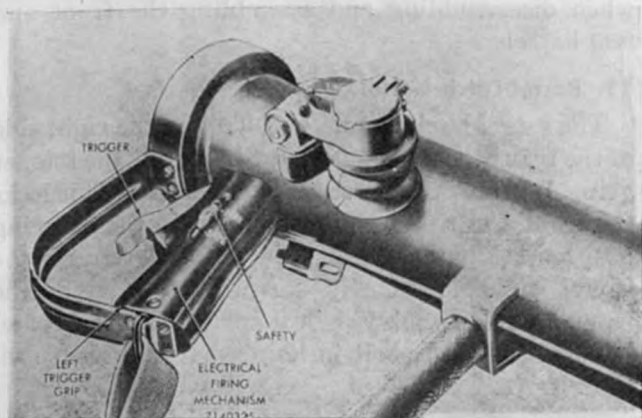
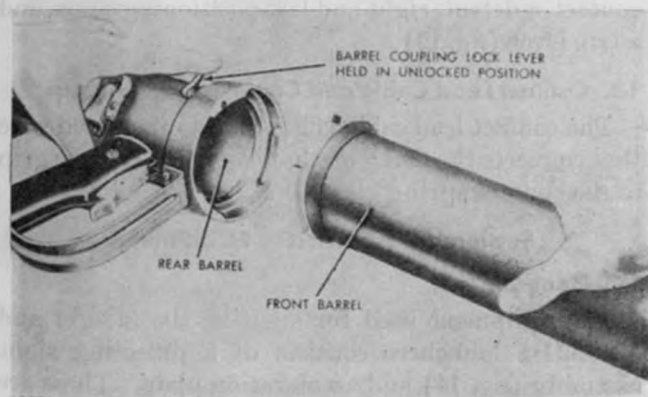

Figure 7. *Electrical firing mechanism.*
Figure 8. *Method of assembling barrels for firing.*
When the trigger is squeezed a magnetic armature is placed in motion and an electrical firing mechanism (fig. 7) in the trigger grip is activated. This generates the electrical current used to ignite the rocket.
The safety switch (fig. 7), on the left side of the trigger grip, has two positions. In the lower, or SAFE, position a block on the safety mechanism prevents the trigger from moving. In the upper, or FIRE, position the block of the safety mechanism is held clear of a lug on the trigger, and the trigger is free to move.
The barrel coupling lock lever (fig. 8) is on the right side of the rear barrel assembly just behind the
- (1) The front and rear barrel groups are joined by the barrel coupling screw on the rear end of the front barrel and the barrel coupling nut on the forward end of the rear barrel (fig. 8). The barrel coupling screw and nut are designed so that a twist of less than one-quarter turn will engage or disengage them. The front barrel can be assembled to the rear barrel in any of three positions. If the front barrels are interchanged between weapons, the weapons must be boresighted before they are used. The barrel coupling screw and nut and both barrels are made of aluminum. On the M20A1B1 launcher these parts are cast as part of the barrels.
- (2) The sight mounting bracket on the M20A1B1 launcher is a support for the sight and elevation plate. It is cast as a part of the rear barrel.
- (3) The contact lead cable connects the contact latch group to the firing mechanism. The cable is encased in an aluminum tube to protect it against damage. The firing mechanism is grounded to the rear barrel.
b. Electrical Firing Mechanism. The electrical firing mechanism (fig. 7) is on the underside and at
- (2) Raise the barrel coupling lock lever and hold it in its unlocked position. Screw the barrel coupling screw of the front barrel into the barrel coupling nut of the rear barrel (fig. 8), and release the lock lever. Be sure that the lock lever rotates into place. This locks the two barrels together.
- (3) Unfold the sight and raise the lens cover. If the launcher is properly boresighted, it is ready for loading and firing.
- (2) Raise the barrel coupling lock lever (fig. 8), and unscrew the front barrel from the rear barrel.
- (3) Place the front barrel hook into the rear barrel eye, and engage the barrel latch and barrel latch strike.